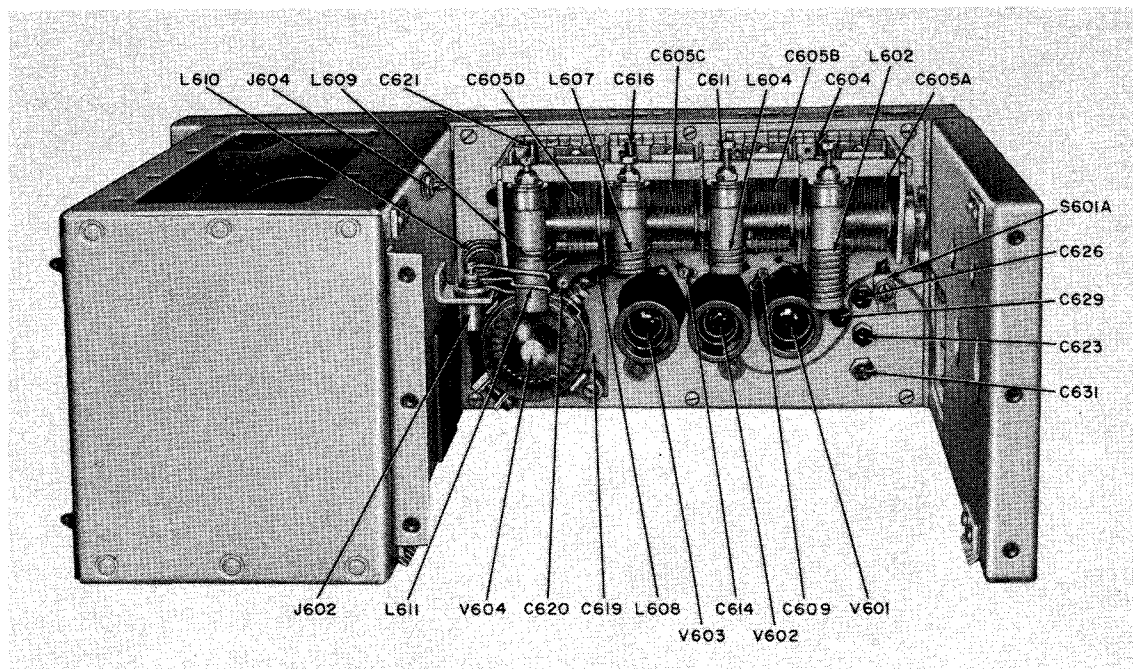

Figure 7-20. Driver Shelf Assembly, Top View
(17) Pull clear the filament lead from XV605 to XV606. (Note the position of this lead, as it must be replaced in the same position.)
(18) Remove the six screws holding the capacitor C637 to the PA shelf, being careful not to lose the spacers.
(19) Capacitor C637 can now be completely removed for service or replacement.
(20) The stators can be adjusted to position at this time, if desired, by loosening the screw holding the individual stators.
(21) To reassemble, perform the preceding steps in reverse order. Be certain to ground the lug soldered to the frame of C637C by securing it with the hardware which grounds the left end of L618. When tightening the couplings between the tuning drives and the capacitor shafts, each capacitor must be at maximum capacity when the tuning drive is against its stop.
(22) Align r-f circuits as necessary. (See paragraph 4, this section.)
f. R-F DRIVER TUNING CAPACITOR, C605. —If it should become necessary to replace or repair any part of C605, or to tighten or straighten any of the stator plate assemblies, removal of C605 from the Amplifier-Oscillator can be accomplished by the following steps (see figure 7-20):
(1) Place the CRYSTAL SELECTOR in position 1, the low-frequency crystal. Set the three r-f tuning controls (B, C, and D) each to 195.
(2) Turn the METER switch to OUTPUT and operate the CARRIER TEST switch. Adjust the P.A. TUNING control (D) for maximum r-f output.
(3) Turn the METER switch to DOUBLER I_g and operate the CARRIER TEST switch. Adjust the slug of L602, in the oscillator plate tank, for maximum grid current.
(4) Turn the METER switch to TRIPLER I_g and operate the CARRIER TEST switch. Adjust the slug of L604, in the doubler plate tank, for maximum grid current. Then adjust the slug of L607, in the amplifier plate tank, for a similar indication. Repeat these two adjustments as often as necessary to obtain maximum current in the tripler grid circuit.
(5) Turn the METER switch to PA I_g and operate the CARRIER TEST switch. Adjust the slug of L609, in the tripler plate tank, for maximum PA grid current. If difficulty is encountered in obtaining a maximum, coil L610 should be physically compressed or expanded so that L609 tracks at approximately the middle of its tuning range; see figure 7-20.
(6) Check the alignment of the power-amplifier grid circuit by varying the grid trimmer capacitor, C638. If the grid tank is properly tracking, the reading on the meter should decrease as it is varied each side of its original position. No further adjustment is necessary in the grid for the low end of the band, if this is the case. If a rise in grid current occurs when the